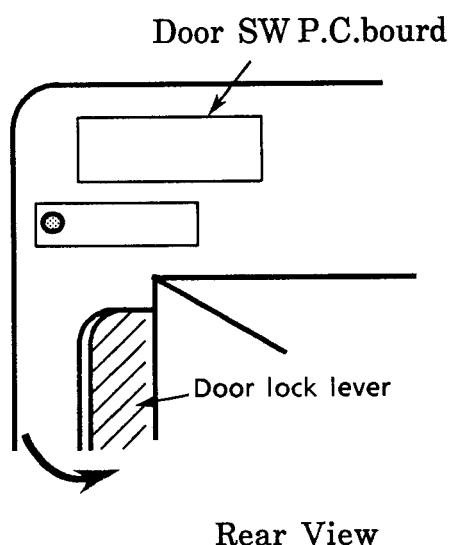

Fig 12. Door lock lever View
- 2) Pull the lock lever in the direction of the arrow shown in Fig .12 to open the door.